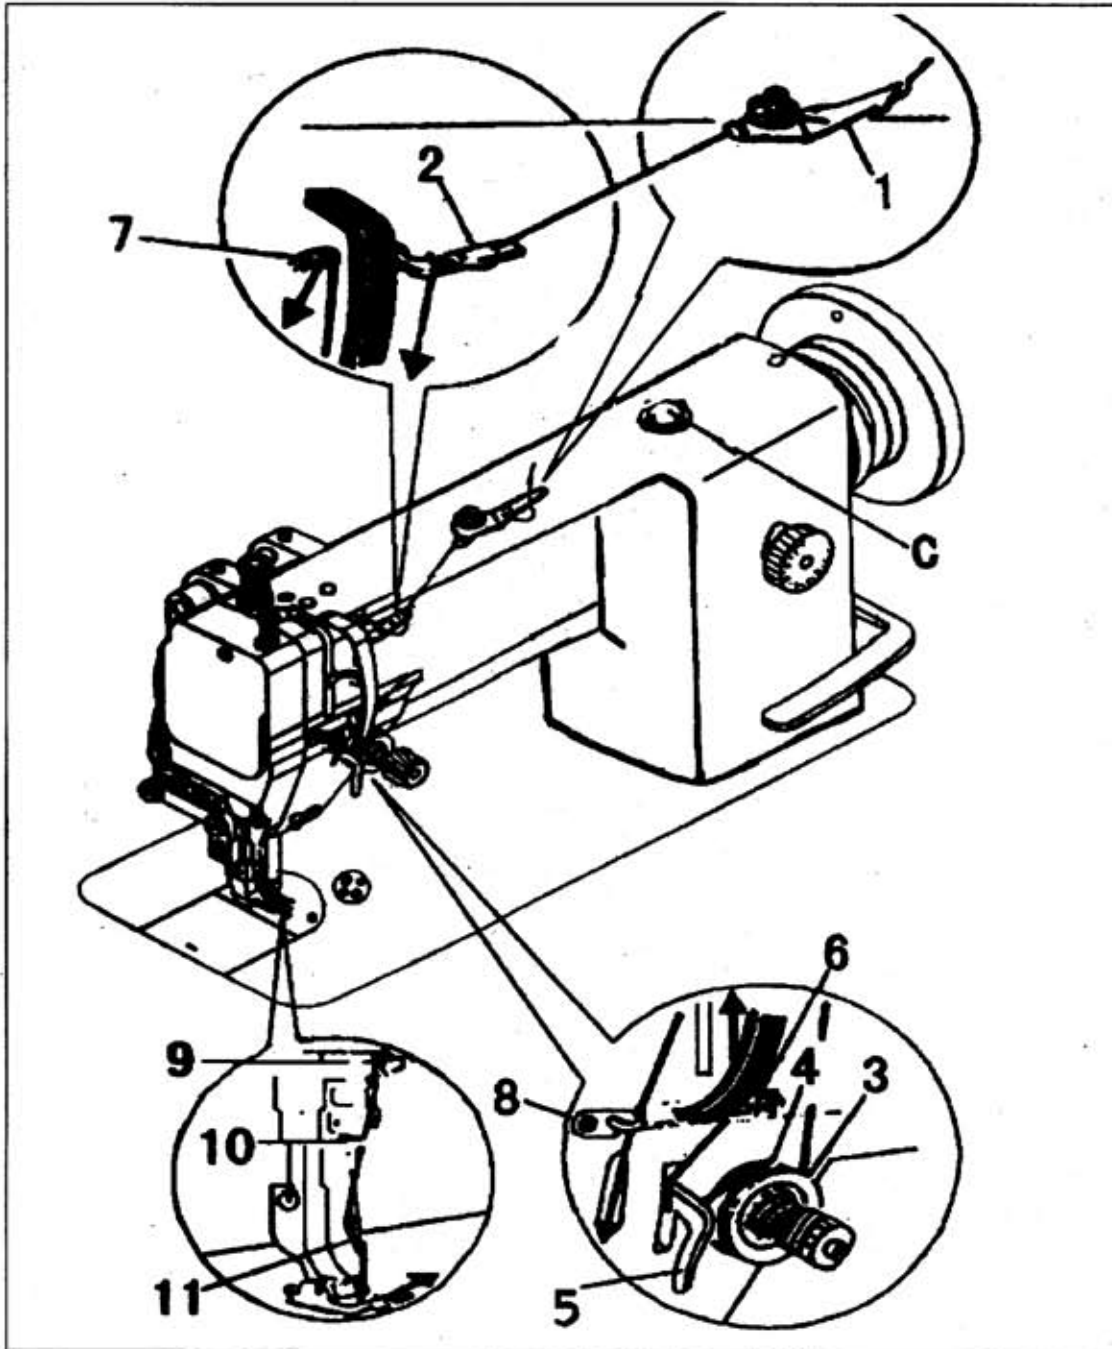

Fig. 6
8. THREADING (Fig.6)
To thread the needle thread, raise needle bar to the upper end of its stroke, lead the thread from spool and perform threading as shown in Fig.6 . To draw the bobbin thread, hold the end of the needle thread and turn the balance wheel to lower the needle bar and then to lift it to its highest position. Pull the needle thread and the bobbin thread is drawn up. Put the ends of needle thread and bobbin thread forward under presser foot.